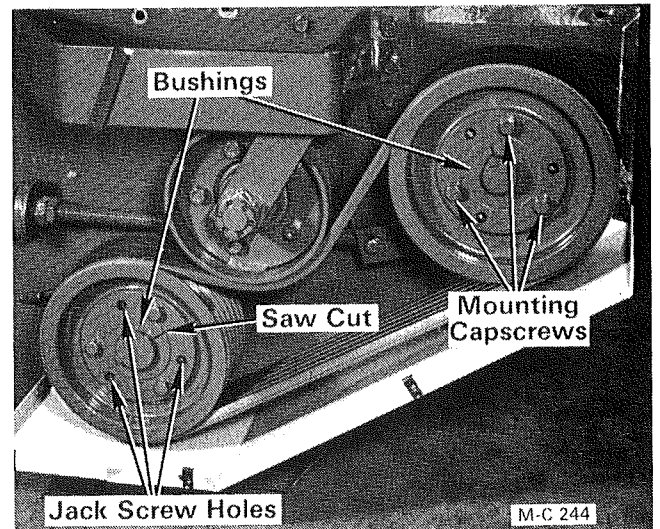

Figure 3
7. Remove the three mounting capscrews, see Figure 3. Thread the capscrews into the three jack screw holes in the pulley. Tighten the three capscrews progressively and evenly until the pulley is loose on the bushing.